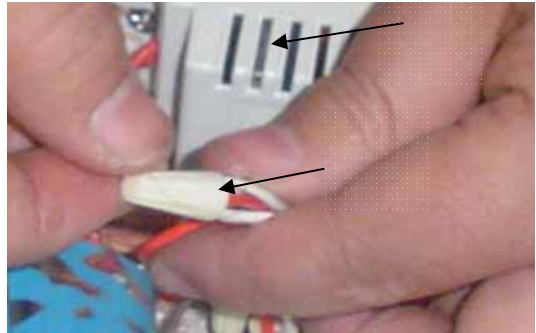

Fig.14
- 4.As wiring diagram, connect the input terminal of the ballast to the power cable, and screw tightly with the cap (Fig.14).